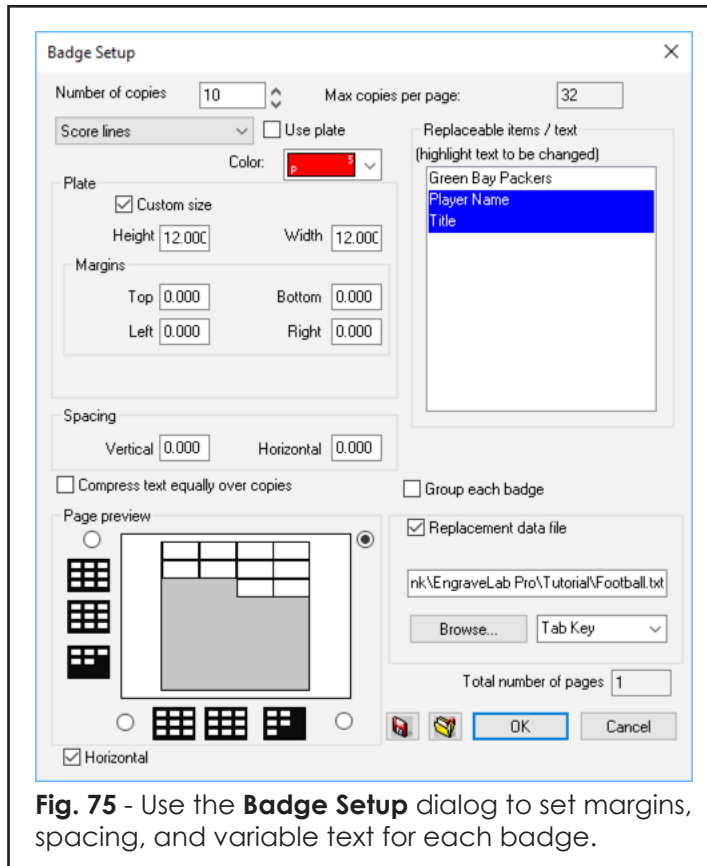

Fig. 75 - Use the **Badge Setup** dialog to set margins, spacing, and variable text for each badge.
4. Choose **Layout** menu >> **Badges** to open the **Badge Setup** dialog (Fig. 75).